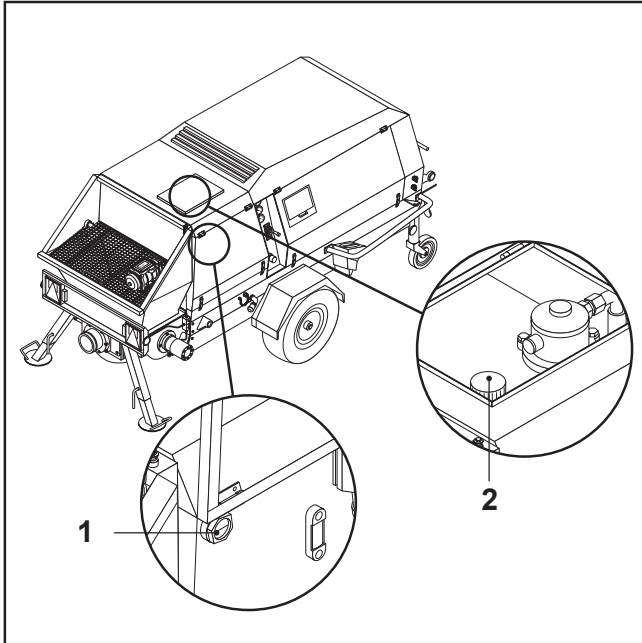

FIG. 32
- Check the hydraulic oil level through the inspection window (FIG. 32-REF. 1); as a rule, the oil level should reach the middle of the window (with the machine switched off and cooled down). The refilling cap (FIG. 32-REF. 2) is located above the tank. To add oil, unscrew the cover on the casing above the hydraulic oil tank.